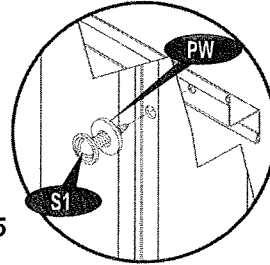

Fig. 5
**11.** Secure wall panels at the middle with (S1) screws and plastic washer (PW). See fig. 5.